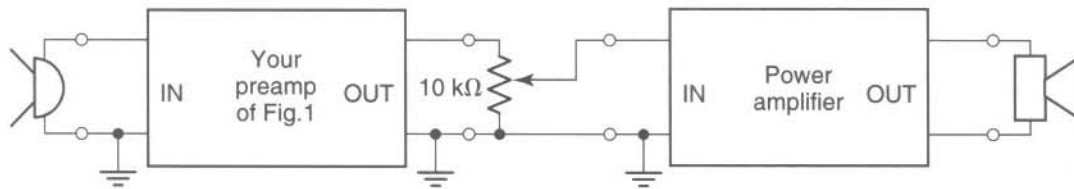

Fig. 3
9. You will now add a *volume control* to your sound system. To do so, you need to take the output of the preamplifier, and *divide down* its voltage by a factor that can be adjustable. The resulting voltage should then be fed to the input of the power amp. You can do this by using a 10 k $\Omega$  potentiometer as a variable voltage divider, as shown in Fig. 3. (A 100 k $\Omega$  potentiometer is also acceptable; why is the exact value of the potentiometer resistance not critical?) Try your new system by speaking into the microphone and varying the potentiometer. Does your volume control work?